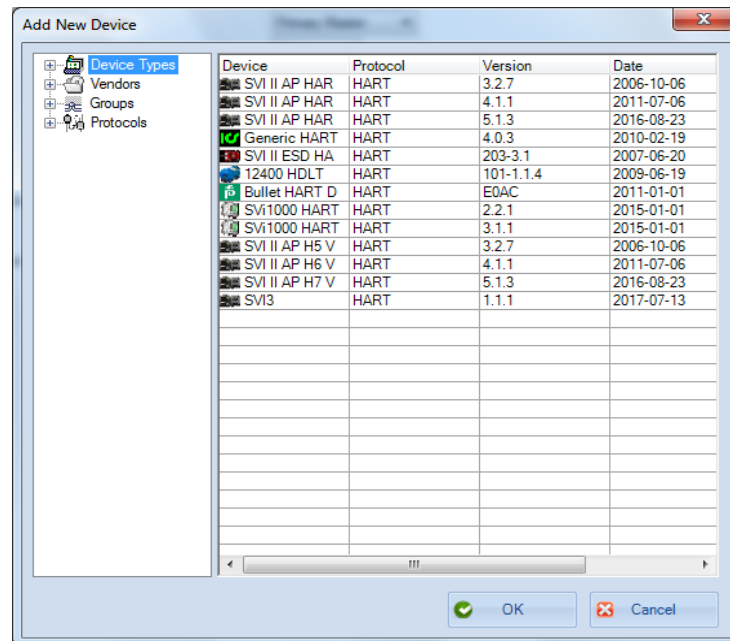

Figure 19 - Add New Device
- Clicking **Add New Device**, Figure 19 appears, highlighting **SVI3** and clicking **OK**. Right-click on the SVI3 in the *Project* pane and click **Connect**.